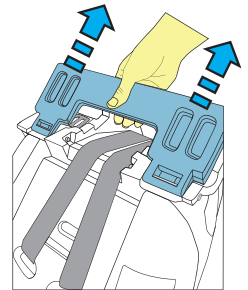

Figure 1
Step 1: Turn the Child Restraint upside down to access from the bottom. Then Lift and Pull the Recline Foot out of the base (see Figure 1).